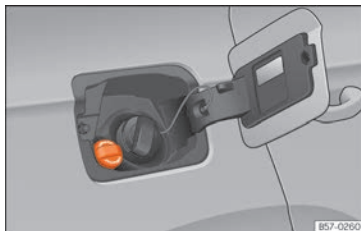

Fig. 189 AdBlue tank cap.
- Open the tank cover »» **Fig. 189**.
» Fig. 189.